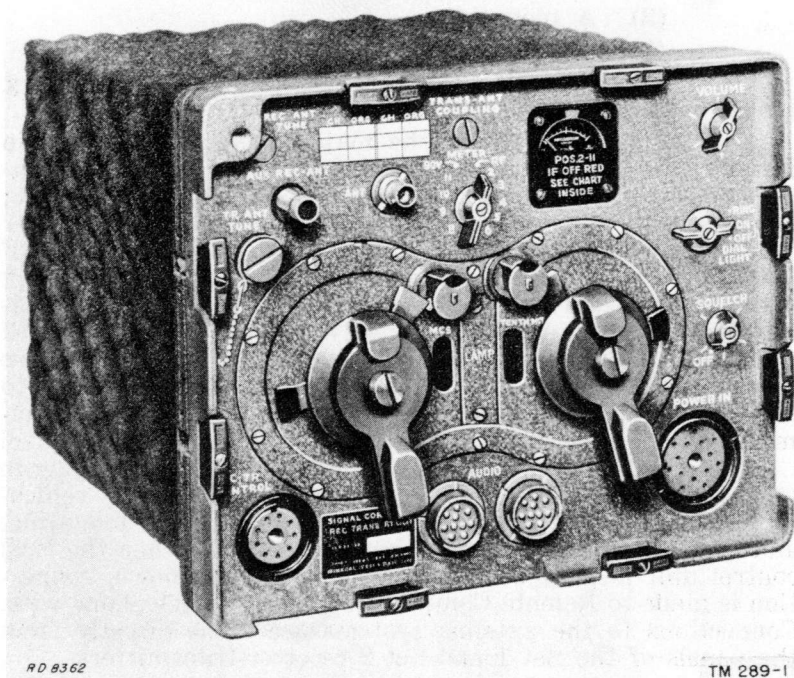

Figure 41.—Receiver-Transmitter, RT-66/GRC.
e. **Receiver-transmitter.**—The controls for the receiver-transmitter (Receiver-Transmitter RT-66/GRC, RT-67/GRC, or RT-68/GRC) are illustrated in Figure 41. Their functions are listed in the following chart: